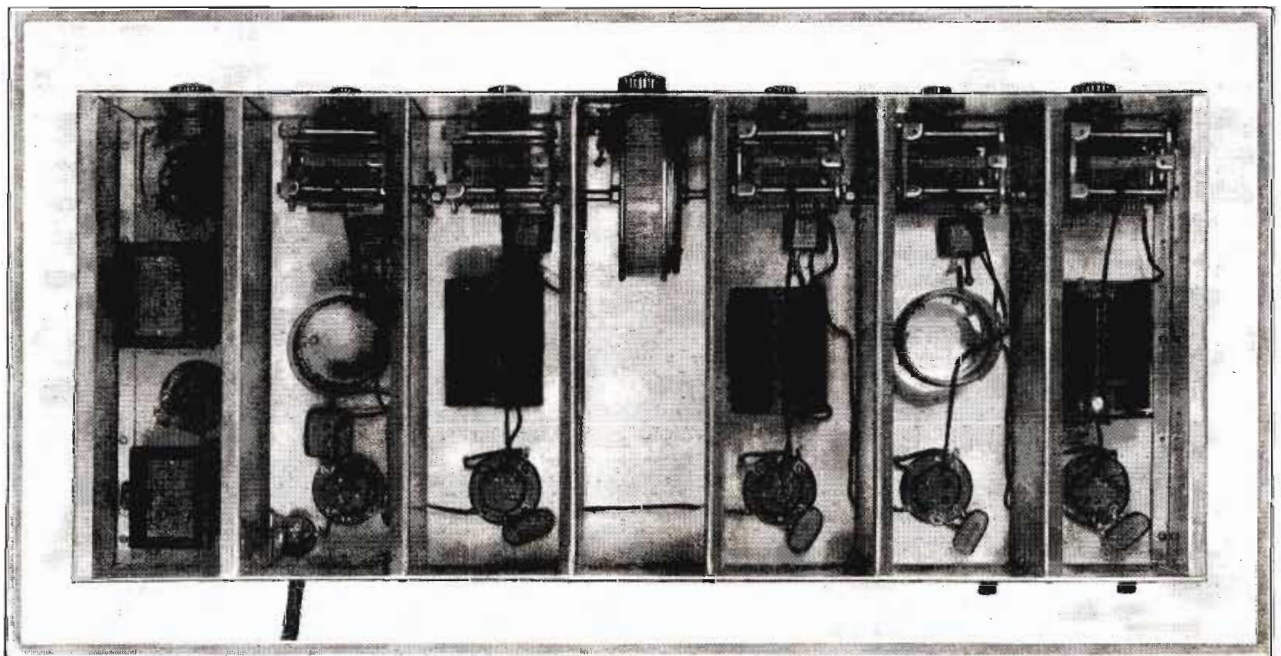
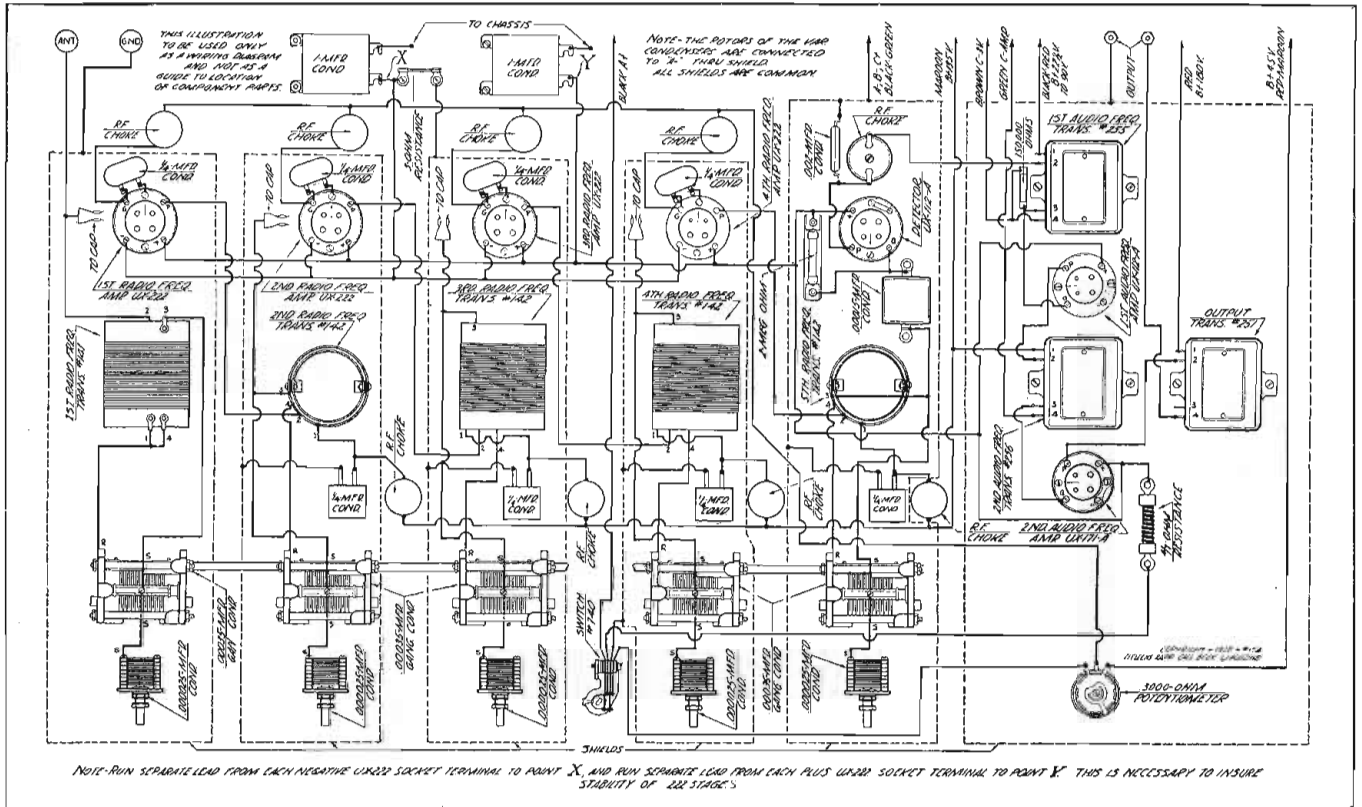

Fig. 1. This photograph shows the top view of the receiver with the shield removed
Fig. 4. The layman may wire up the Sargent-Raymont Seven by means of the graphic illustration shown above
**Fig. 4.** In this particular graphic diagram the parts have been placed exactly as shown in the photograph in Fig. 1, so that this illustration serves both as a layout and a graphic wiring diagram
The receiver is named for Sargent and Rayment, who will doubtless be remembered as the designers of the Infradyne circuit, and is a seven tube radio frequency receiver having four individually shielded tuned r. f. amplifier stages, a detector and two high gain Clough audio amplifier stages. An inspection of the photograph in Figure 1 will show that the receiver consists of an aluminum shielding assembly, which acts as the cabinet for the entire receiver and at the same time an individual stage shielding for the various sections of the set. The cabinet is made up of a pierced aluminum chassis with edges turned down, to which are fastened a number of smaller formed pans, which serve as partitions between the respective stages. The front and back panels which are attached to the chassis and to all eight partitions complete the assembly. For the cover an aluminum sheet, the edges of which are turned over, is provided.
Examination of the photograph in Figure 1 will show that the energy from the antenna progresses from the antenna tuning circuit in the extreme left compartment of the aluminum shielding cabinet through the four stages of tuned r. f. to the detector in the sixth compartment. Four screen grid tubes are used in the r. f. stages and a 112-A for the detector. In the extreme right compartment is located the two stage audio amplifier and output transformer with a volume control. While the photograph seems to actually show only two audio transformers, nevertheless this is not the case, for the 251 output transformer is placed on top of the 256 second stage audio trans-